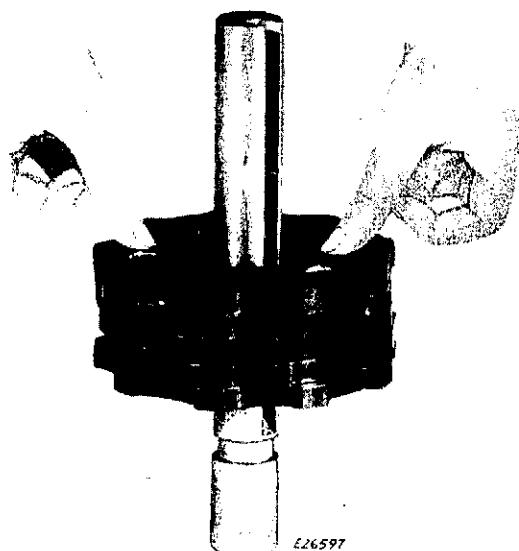
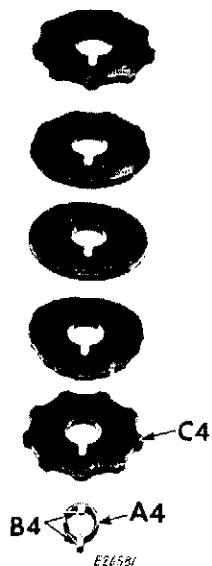

Fig. 255B
Fig. 256
2. Press with thumbs against discs astride the locating tool and press down, as shown in Fig. 255B.
5. Place the disc bushing **A4**, Fig. 256 in an upright position, with keys **B4** facing up. Then take one disc **C4** at a time and with the STITCH PATTERN DESIGN FACING DOWN, align the key slot with the key on the bushing and press on, as shown in **Fig. 255B**. This procedure is the same for the remaining discs.